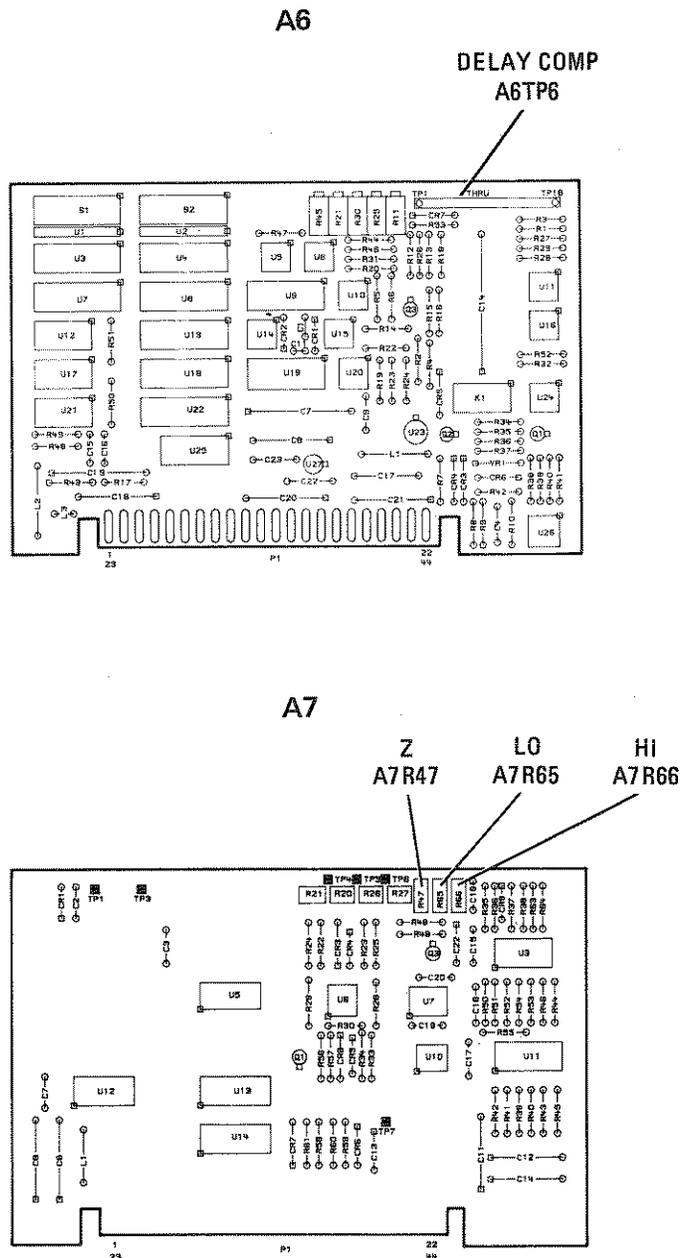

Figure 5-14. Delay Compensation Adjustments
5. Adjust "Z" control A7R47 on marker board (Figure 5-14) for the same reading at A6TP6 that was obtained in step 3 above. Remove DVM lead from A6TP6.
17. Adjust "LO" A7R65 on marker board (Figure 5-14) so the peak of the wavemeter pip is coincident with the leading edge of the marker.
22. Adjust "HI" A7R66 on marker board (Figure 5-14) so the peak of the wavemeter pip is coincident with the leading edge of the marker.